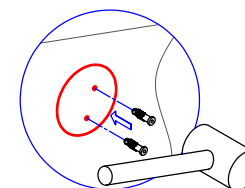

Fig. 3
- Step 4. Insert anchors into the holes until flush with wall. (Fig.3)